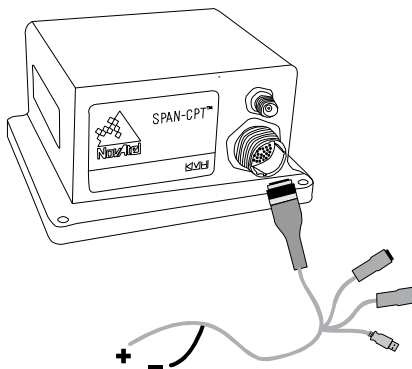

Figure 8: Apply Power to the SPAN-CPT
5. **Apply power to the SPAN-CPT.** See Figure 8.